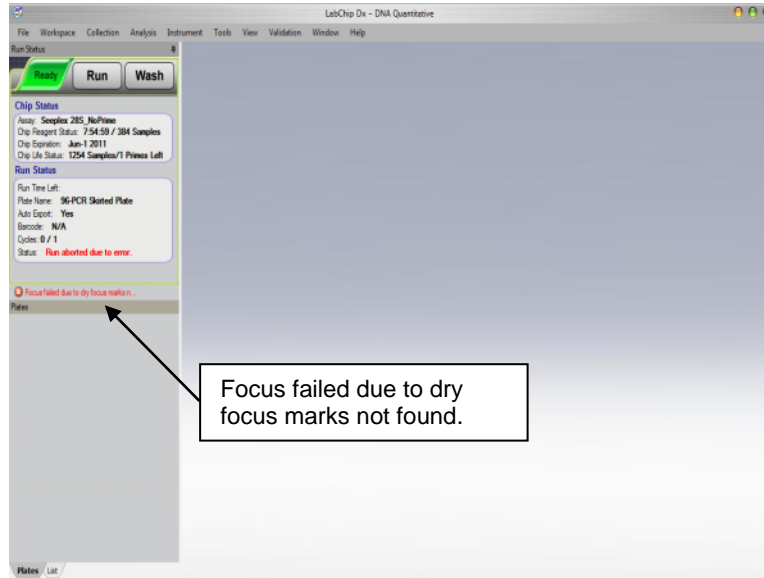

Figure 18. LabChip Dx GUI with run abort error message due to chip focusing failure.
3. Symptom: Run abort due to chip focusing failure. See Figure 18.